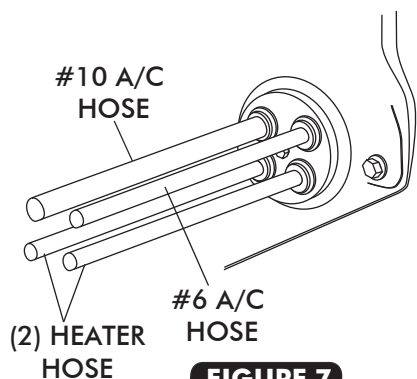

FIGURE 7
- ☐ ROUTE A/C AND HEATER HOSE THROUGH FRESH AIR CAP AND KICK PANEL FRESH AIR CAP AS SHOWN IN FIGURE 7 AND 7b, BELOW.